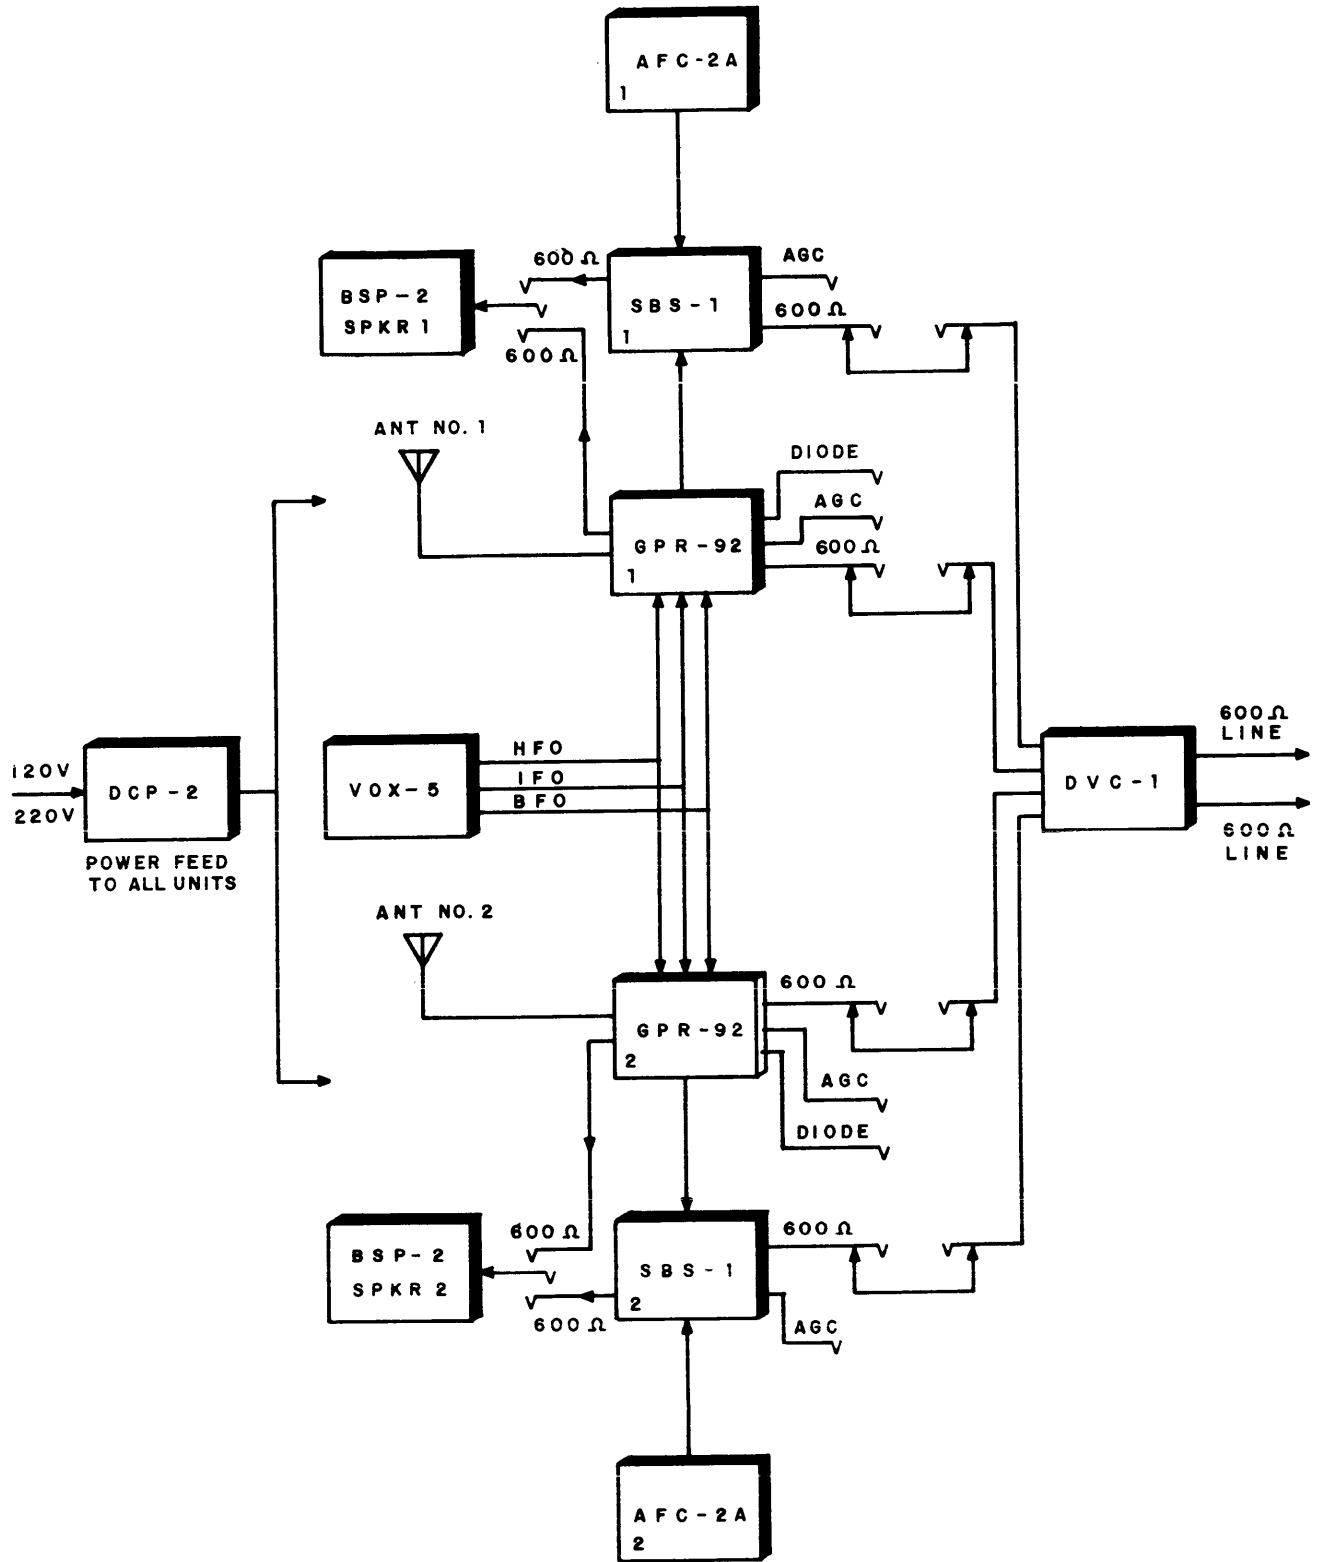

Figure 4-1. Simplified Block Diagram, DDR-8
b. FUNCTIONAL ANALYSIS, AM MODE OF OPERATION. - AM signals can be received in either one of two ways as described below. Use of Sideband Selectors SBS-1 No. 1 and SBS-1 No. 2 as described in (2) below makes it possible to eliminate interference occurring in either one of the sidebands.
(1) USING DETECTOR AND AUDIO AMPLIFIER STAGES OF GPR-92. - Refer to figures 4-1 and 4-2. AM signals can be received by using the detector and audio amplifier stages of General Purpose Receiver GPR-92 No. 1 and GPR-92 No. 2. In this case, the detector and audio amplifier stages of Sideband Selectors SBS-1 No. 1 and SBS-1 No. 2 are not used, and functional analysis resolves itself to
Refer to figures 4-1 and 4-2. AM signals can be received by using the product detector and audio amplifier stages of Sideband Selectors SBS-1 No. 1 and SBS-1 No. 2. In this case, the detector and audio amplifier stages of the GPR-92 are not used, and functional analysis is similar to that given for single-sideband signals (paragraph 4-2d). The setting of IF BANDWIDTH KC switches S6201 and S6202 determines whether the intelligence in both sidebands or in either sideband (upper or lower) will be detected and amplified.
c. FUNCTIONAL ANALYSIS, CW MODE OF OPERATION. - Refer to figures 4-1 and 4-2. Similar to reception of AM signals, CW signals can be received by using the detector and audio amplifier stages of the GPR-92 or the SBS-1. When using the GPR-92, BFO voltage for the product detector stage is obtained from oscillator V105 in Variable Frequency Oscillator VOX-5. When using the SBS 1, BFO voltage for the product detector can be obtained only from oscillator
d. FUNCTIONAL ANALYSIS, SSB MODE OF OPERATION. - Refer to figures 4-1 and 4-2. In the SSB mode of operation, Automatic Frequency Control AFC-2A No. 1 and AFC-2A No. 2 and Sideband Selectors SBS-1 No. 1 and SBS-1 No. 2 are employed. The product detector and audio amplifier stages of General Purpose Receivers GPR-92 No. 1 and GPR-92 No. 2 are not used. Functional analysis is as follows:
(1) RF AMPLIFICATION, FIRST CONVERSION, AND SECOND CONVERSION. -